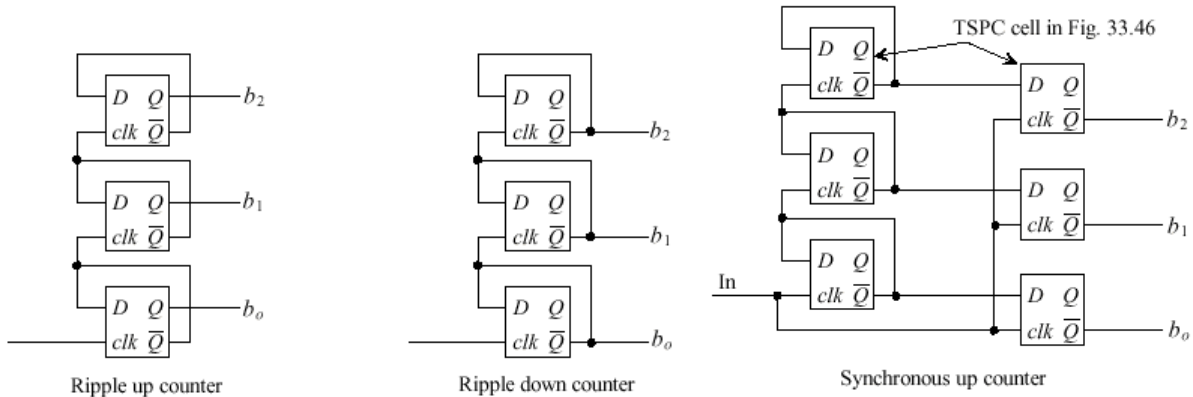

Figure 33.47
33.11 Show, using simulations, that the circuits in Fig. 33.47 do indeed behave as counters.